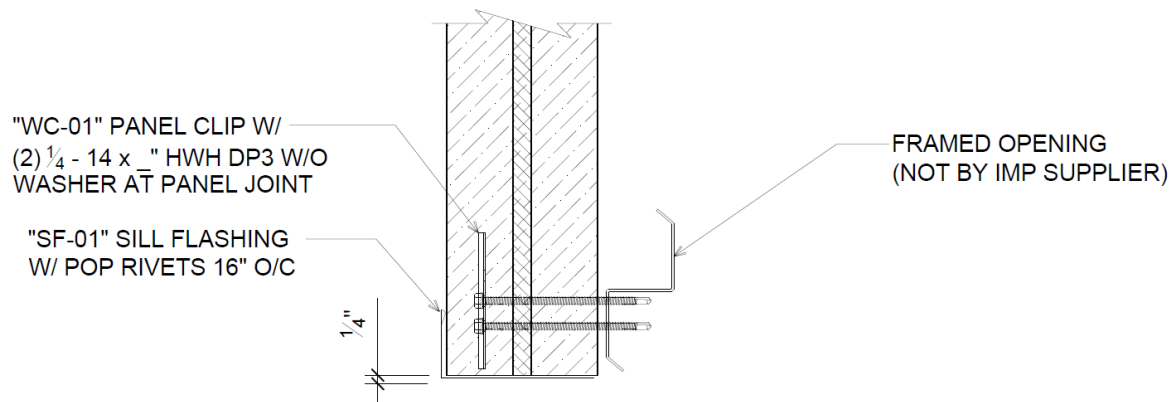
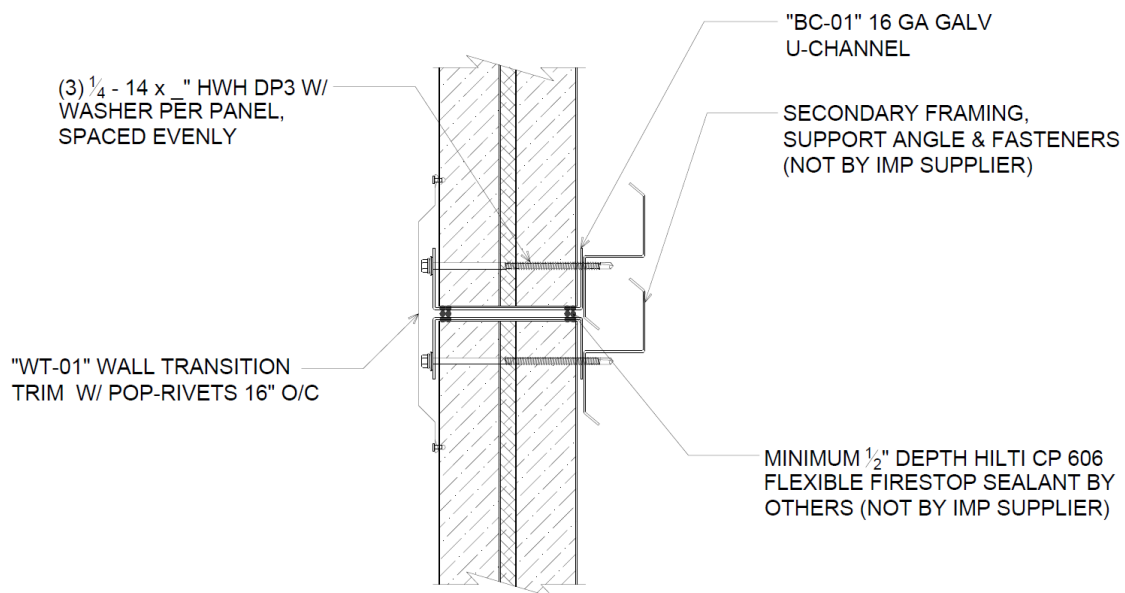

Figure 2A - Framed Opening Header
Figure 2D - Stack Joint
Panels are installed vertically to the exterior side of the supporting wall with min. conditions as follows: 2 in. x 2 in. x 2 in., No. 26 GA Z-girts are attached horizontally to the supporting wall, spaced as required by the design but no greater than 92 in. on center (oc). The panels are attached with clips, shown in Figure 2A, attached through the panel joints to the Z-girts with TEK 3, TEK 4, or TEK 5 fasteners (1/4-14
diameter; length varies per panel thickness). Stacked joints are assembled as shown in Figure 2D. Panel terminations are held in place with cap trim using pop rivets every 12 in. oc. Use 6 in. wide 26 GA CT-01 Cap Trim, 8 in. x 3 in. 26 GA SF-01 Sill Trim, 2 in. 26 GA BT-04 Fascia Trim, and 6 in. 26 GA BF-01 Zee Flashing, according to the requirements of the design. Trim components are provided by AWIP. See Figures 2A through 2E for typical details.
3. **OPENINGS:** Fasten No. 26 GA steel sill flashing around the perimeter of the opening using pop rivets every 16 in. oc. See Figures 2A, 2B, and 2C for details.